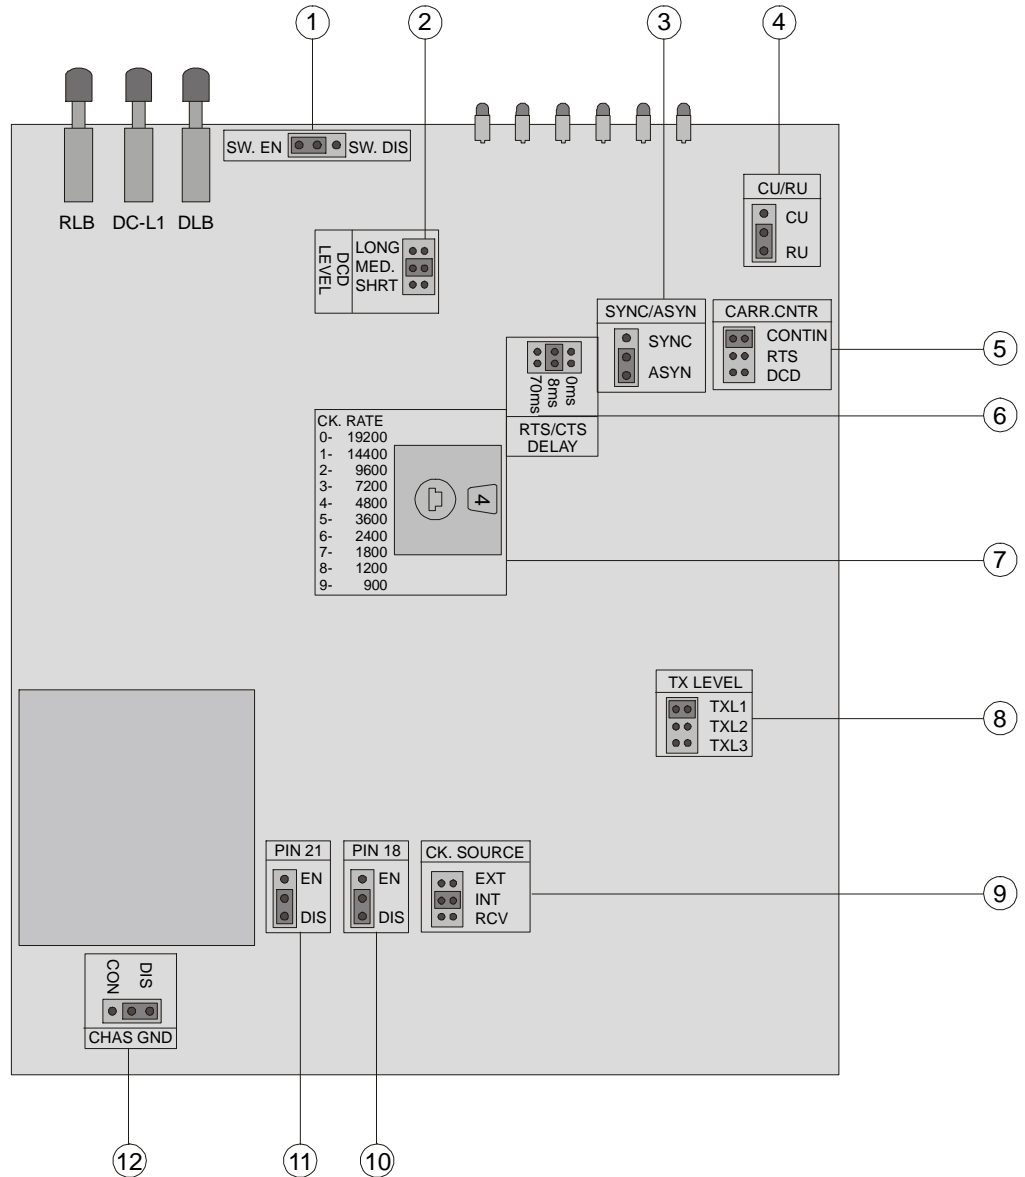

Figure 2-3. FDN 6131A PCB Layout
2. Set the FDN 6131A internal jumpers, referring to *Figure 2-3*.
The internal jumpers and switches located on the FDN 6131A printed-circuit board (PCB) are identified in *Figure 2-3*. The functions of jumpers are described in *Table 2-2*.